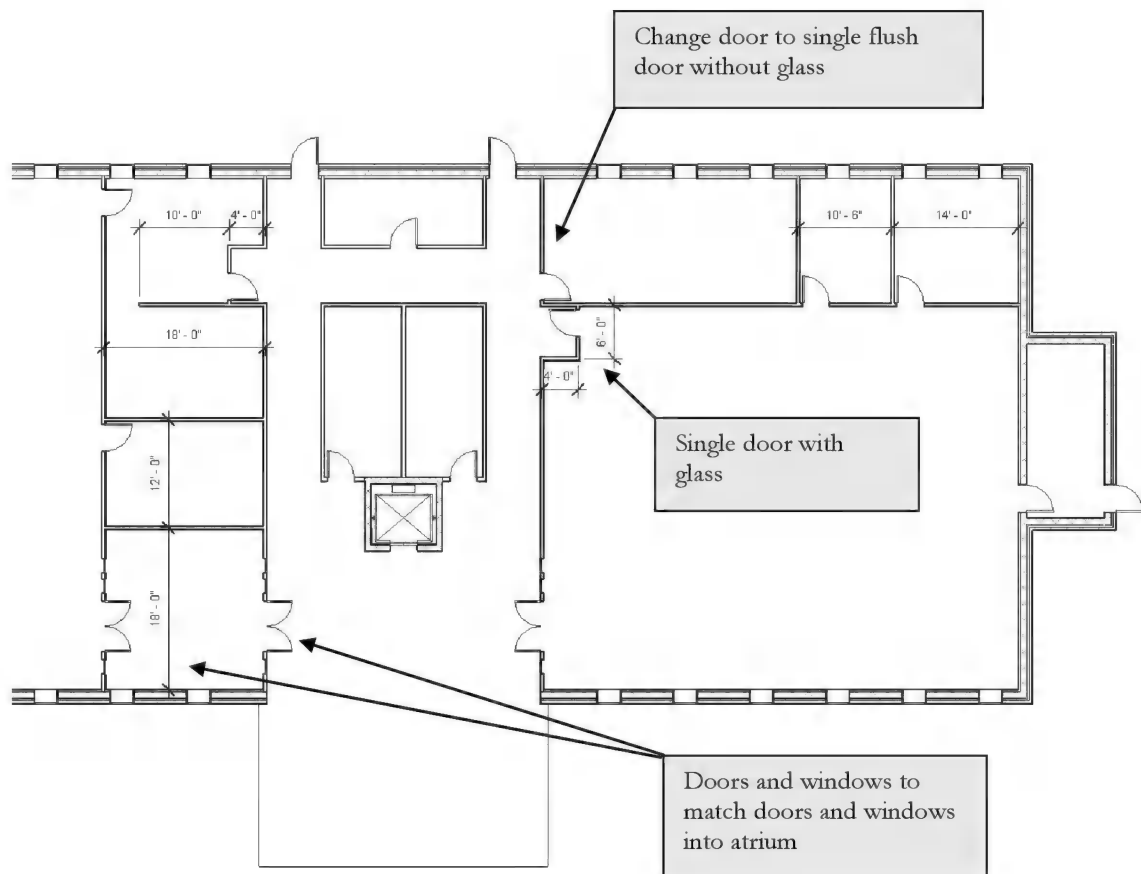

FIGURE 4-2.1 Level 1 - Added walls
1. Add the interior walls and doors to **Level 1** as shown in Figure 4-2.1. Use the stud wall you used previously. Use the *Align* tool to align the walls, which are not dimensioned, with the adjacent walls previously drawn.